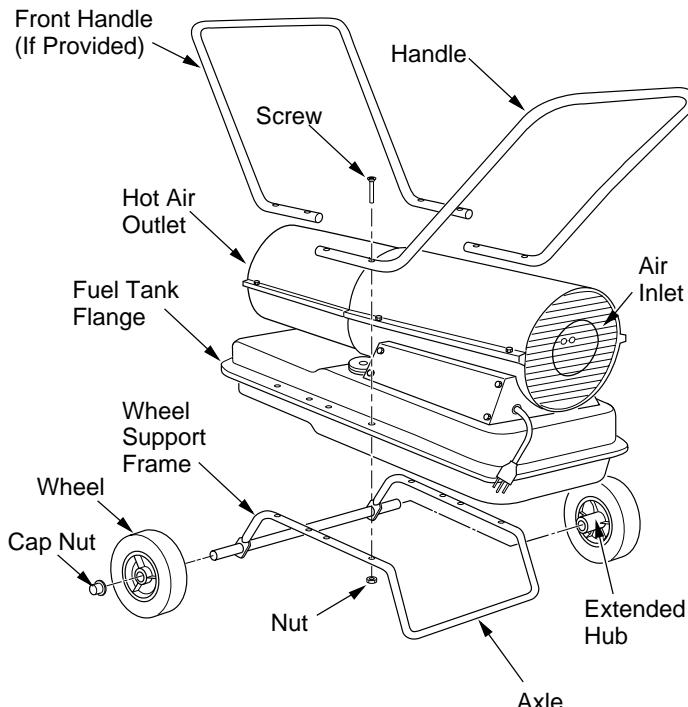

Figure 5 - Wheel and Handle Assembly, 110/115/150/155/165/
1. Slide axle through wheel support frame. Install wheels on axle. **IMPORTANT:** When installing wheels, point extended hub of wheels toward wheel support frame (see Figure 5).